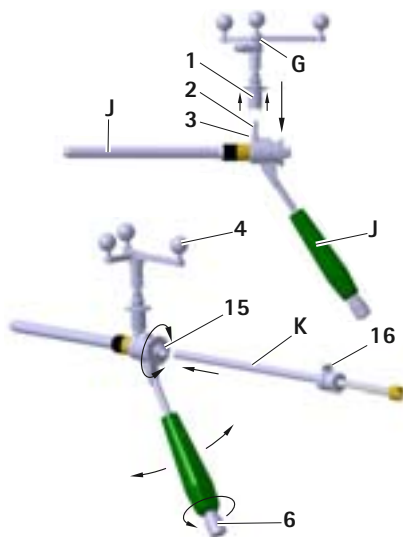

Fig. 10 Mounting the Aesculap star unit onto the S⁴C guide sleeve; inserting the S⁴C drill guide
- To ensure the camera has an unrestricted view of the reflective marker spheres, unscrew knob **6** on the S⁴C handle of the S⁴C guide sleeve **J** and turn the Aesculap star unit **G** to the desired position, see Fig. 10.
The inner guide sleeve engages on the inner sleeve and can still be rotated, see Fig. 10.